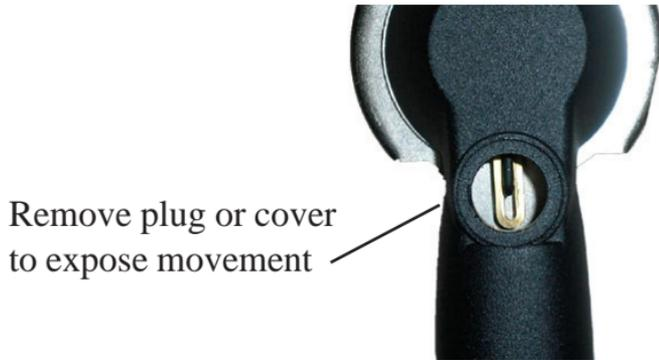

Fig. 1
1. Each JETCO dial type torque wrench has a removable cover on the back side of the wrench, behind the dial scale. On wrenches up to 50 ft.lb. (600 in.lb.) the cover is a round plug which can be removed by using a flat tip screw-driver (see fig. 1). On wrenches up to 2000 ft.lb. the cover is held into place with a phillips screw.